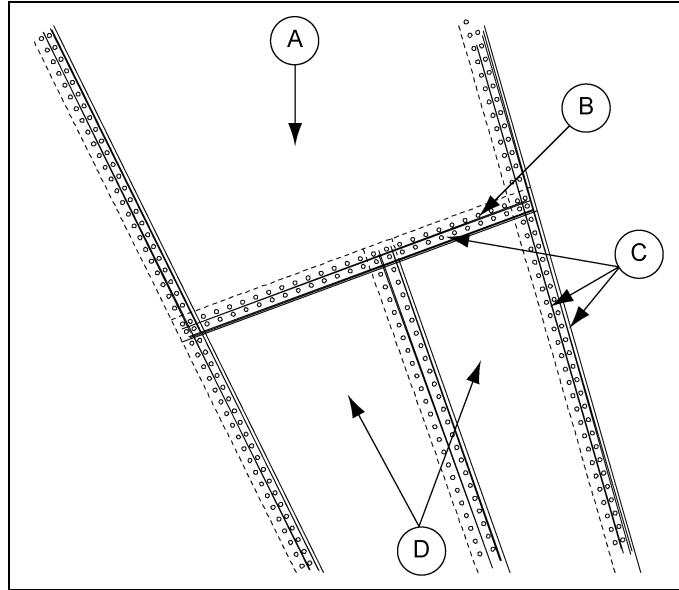

Figure 7H Caulking Detail
The 36' hopper bottom has three (3) sections. Apply caulk to all hopper section seams as shown in Figure 7H on Page 26.